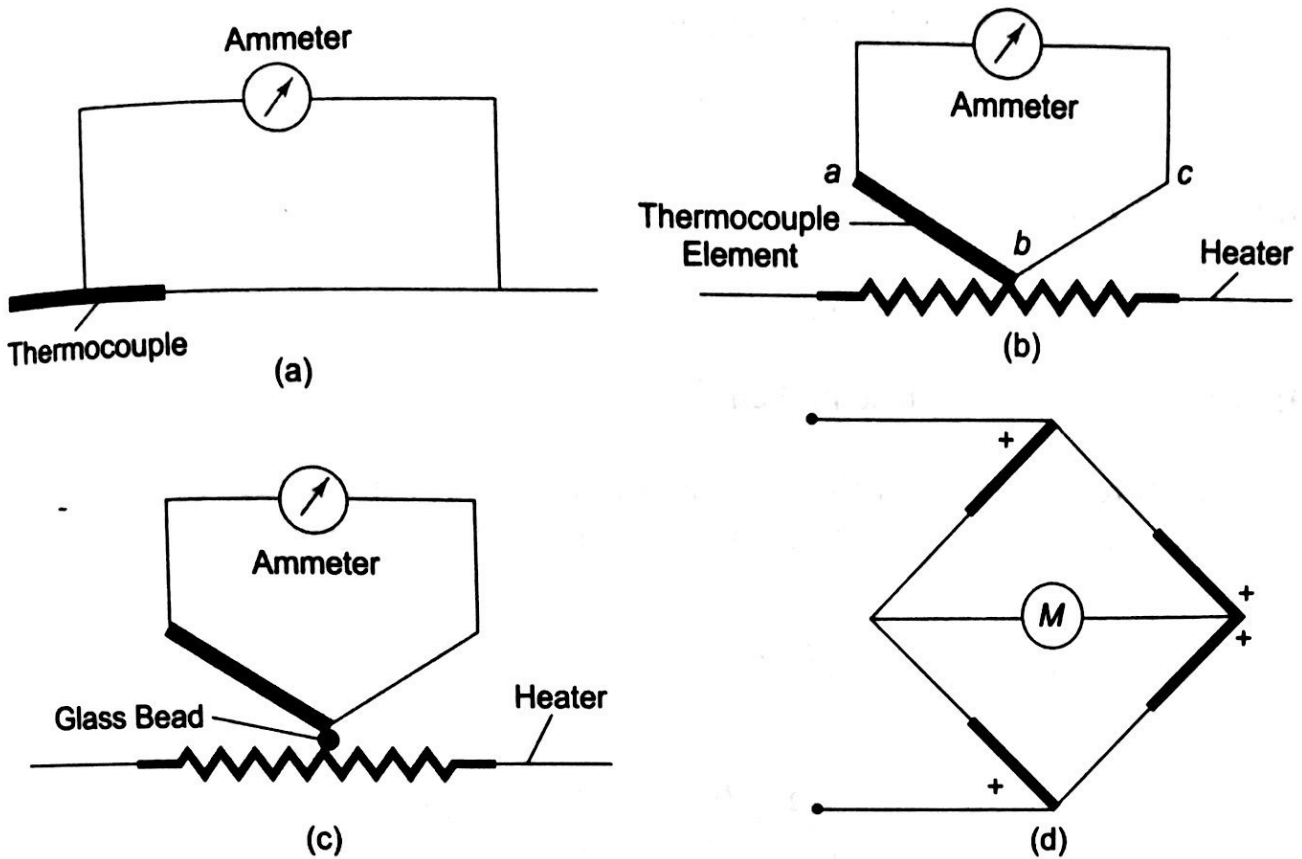

Fig. 3.6 (a) Mutual type (b) Contact type (c) Separate heater type
- ① **Mutual Type (Fig. 3.6 (a))** In this type, the alternating current passes through the thermocouple itself and not through a heater wire. It has the disadvantages that the meter shunts the thermocouple.
- ② **Contact Type (Fig. 3.6 (b))** This is less sensitive than the mutual type. In the contact type there are separate thermocouple leads which conduct away the heat from the heater wire.
- ③ **Separate Heater Type (Fig. 3.6 (c))** In this arrangement, the thermocouple is held near the heater, but insulated from it by a glass bead. This makes the instrument sluggish and also less sensitive because of temperature drop in the glass bead. The separate type is useful for certain applications, like RF current measurements. To avoid loss of heat by radiation, the thermocouple arrangement is placed in a vacuum in order to increase its sensitivity.
- ④ **Bridge Type (Fig. 3.6 (d))** This has the high sensitivity of the mutual type and yet avoids the shunting effect of the microammeter.